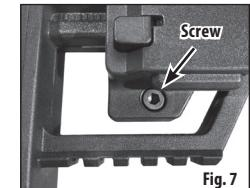

Fig. 7
- Locate the screw on the right side of the cheek piece (Fig. 7).